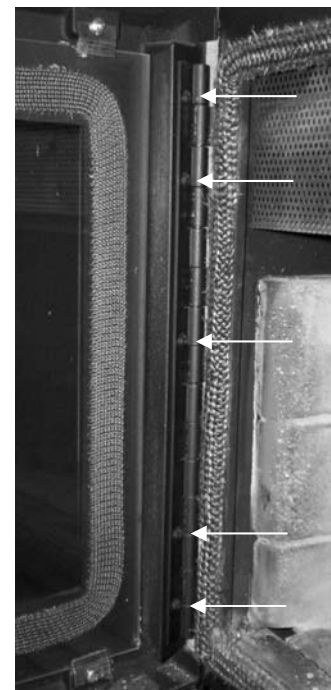

Figure 3 Hinge Adjustment on the Door
1. To tighten the left side of the door, slightly loosen the screws holding the hinge to the door (see Figure 3).